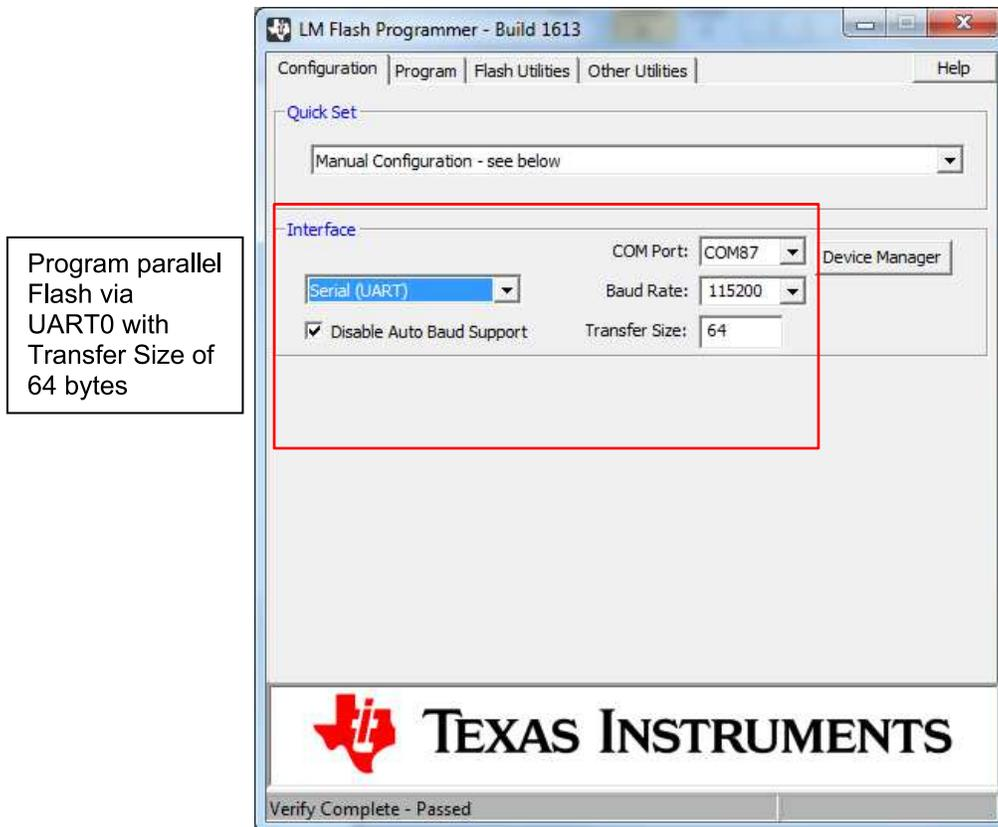
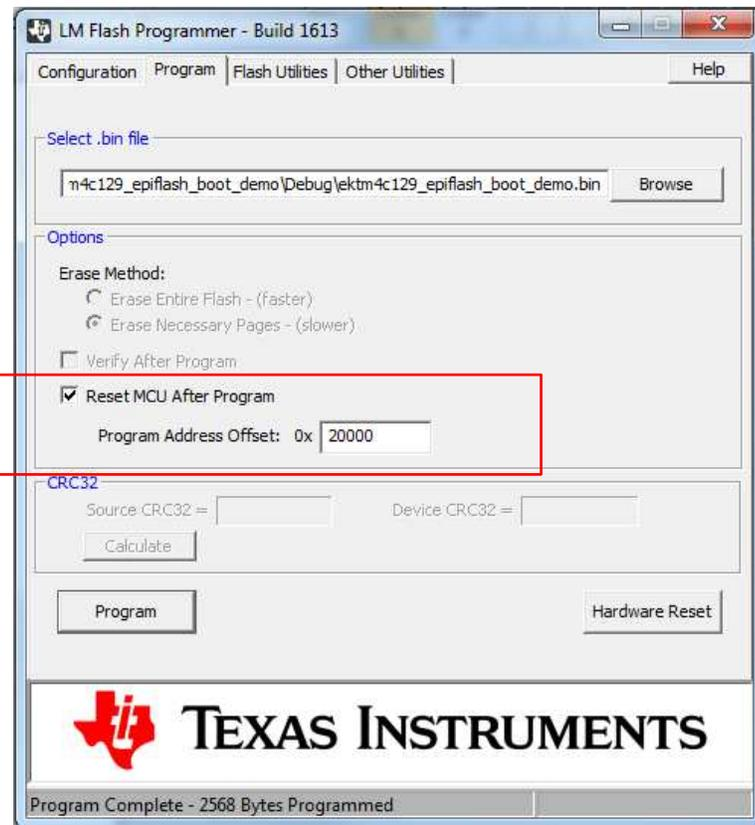

Figure 22. LMFlashProgrammer Configuration Tab for Boot Demo
Figure 23. LMFlashProgrammer Program Tab for Boot Demo
- Download the demo example “ektm4c129_epiflash_boot_demo” by using the LMFlashProgrammer in serial mode. Ensure that the “Disable Auto Baud Support” is checked, the correct COM port is selected, and the transfer size is kept to 64 bytes. On the Program tab, select the Program Address Offset as the start of a sector of parallel Flash other than Sector-0. Figure 22 and Figure 23 show the setting of the LMFlashProgrammer for downloading the demo code.